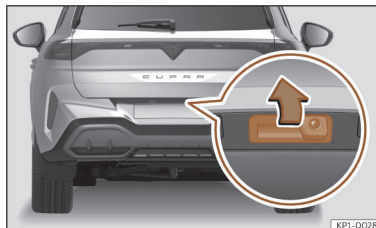

Fig. 82 Rear lid: opening from the outside.
- *Open*: place slight pressure on the handle. The rear lid opens automatically >>> Fig. 82.